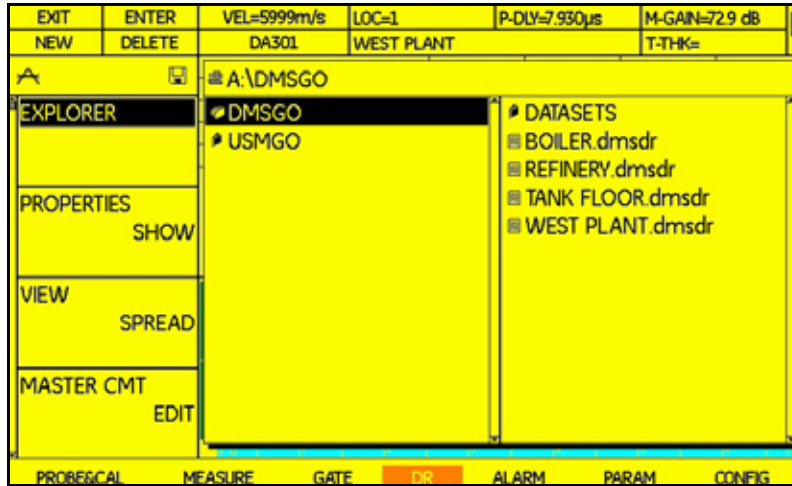

Figure 28: The Explorer Option (with Created Files)
1. Use the joystick () to select the function titled EXPLORER in the DR menu. Move the joystick right () to open the function. If you have created files, the display appears similar to Figure 28 on the next page.